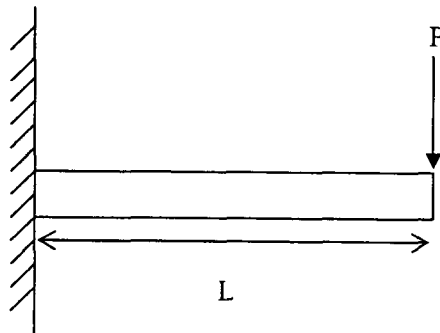

Figure 5
4. A cantilever beam is loaded as shown in Figure 5. Indicate that the maximum deflection is $PL^3/3EI$, where;